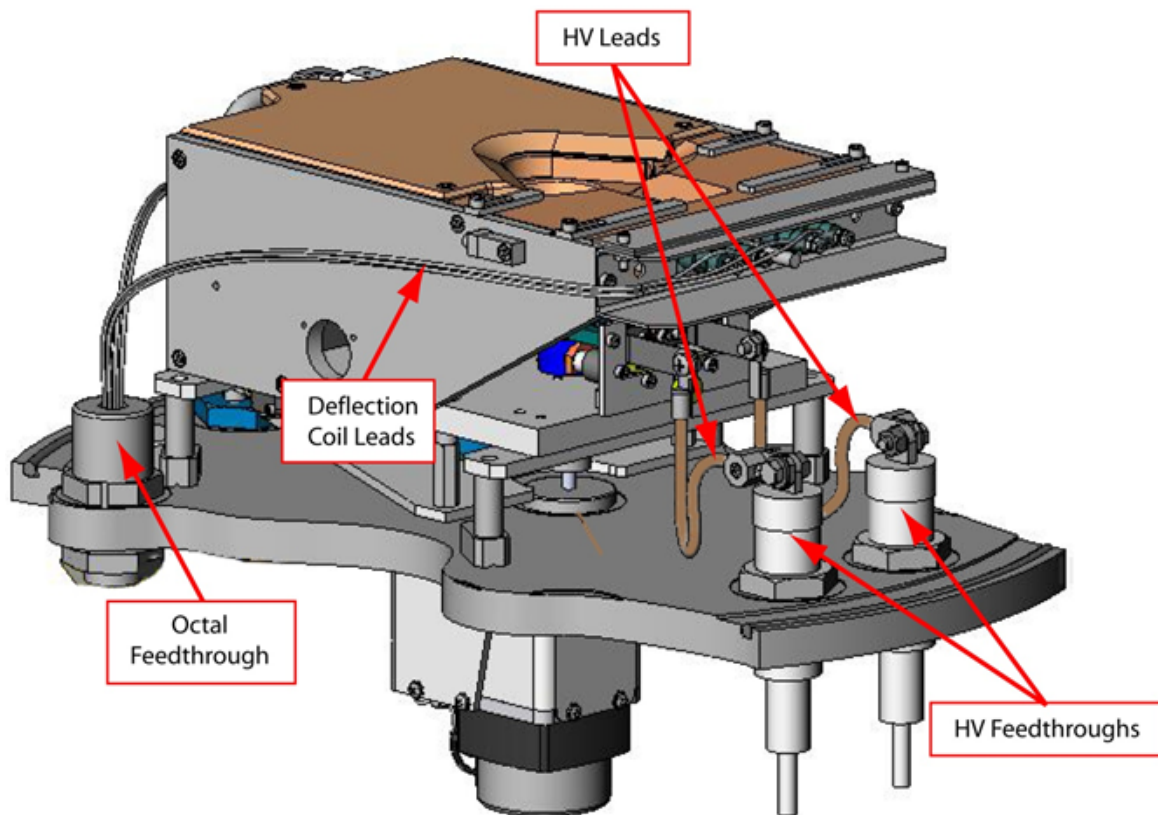

Figure 2-1. Installation details (-3 PopTop sources shown here, but labeled installation details are accurate for the STIH-270-3CK as well)
Follow the procedures described below and refer to Figure 2-1 in installing the source.
Next determine where the feedthroughs will be mounted, as their placement depends on where the source is mounted. The water feedthrough should be somewhere behind the source. The high-voltage feedthroughs should be mounted beside each other somewhere in front of the source, or perhaps slightly off to one side, as shown in Figure 2-1. The octal feedthrough should be mounted off to the other side of the source, ideally as far from the high-voltage feedthroughs as possible. Do NOT mount all three electrical feedthroughs in front of the source, with the octal feedthrough positioned between the two high-voltage feedthroughs. This mounting arrangement makes it impossible to isolate the coil-current leads from the effects of the high-voltage. It is critical to provide this protection for the deflection coil leads. This can be accomplished simply by mounting the octal so that the deflection coil leads run along the lower lip of the coil shield and toward the side of the gun opposite the high-voltage feedthroughs, as shown in Figure 2-1. With the leads routed this way, the coil shield provides adequate isolation from the high voltage. If the coil shield cannot be used to provide the required isolation, it will be necessary to install a stainless steel high-voltage shield like the one shown in Figure 2-2.
To ensure proper cooling, the water lines MUST be connected as shown in Figure 2-1, with the supply line connected to the gun's lower external water junction and the return line connected to the gun's upper external water junction. The crucible will not be cooled adequately if these connections are reversed.
- 2 Connect the gun's drive shaft to the rotary feedthrough's output (i.e., vacuum-side) shaft. On side-drive sources, you may need to add an extension shaft like that shown in Figure 2-1 between the gun's drive shaft and the rotary feedthrough. Connecting a side-drive source to a rotary feedthrough mounted in the source tray will require a right-angle coupling. In all other cases, use a flexible in-line coupling (PN 9015-0121-0) to connect the shafts.